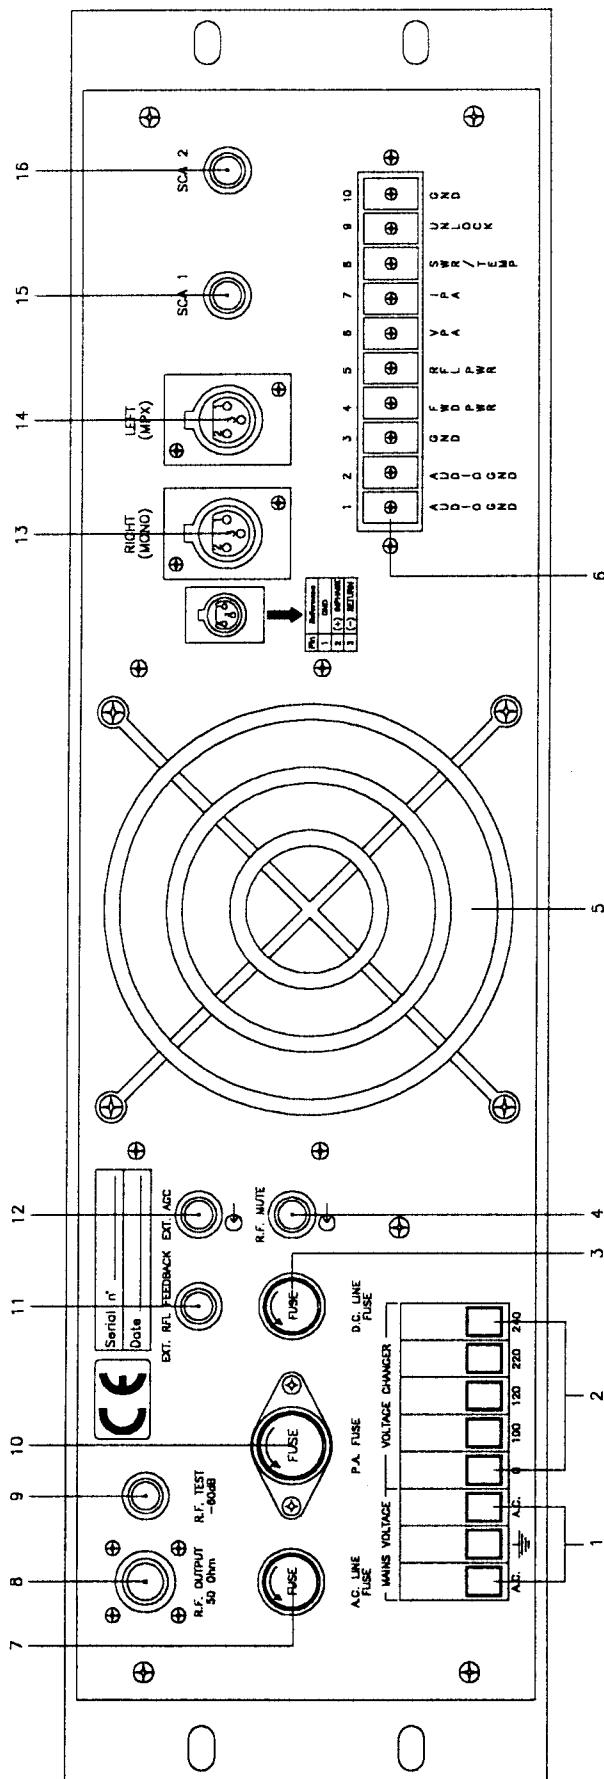

FIG. 2
REAR PANEL View Description (Fig. 2)
- 1) Check that the line voltage selector is correctly set for the local supply. Check also that the A.C. Line Protection Fuse (Fig.2 Item 7) is mounted on the rear panel. The current sizes of the fuses are as follows:
- 4) Connect a switch, via a cable, to the R.F. Mute connector (Fig. 2 Item 4) on the rear panel so that the switch is able to short the central conductor to its ground. Leave the switch in the short-circuit position.
- 6) Connect the line cord. (Fig.2 Item 1)